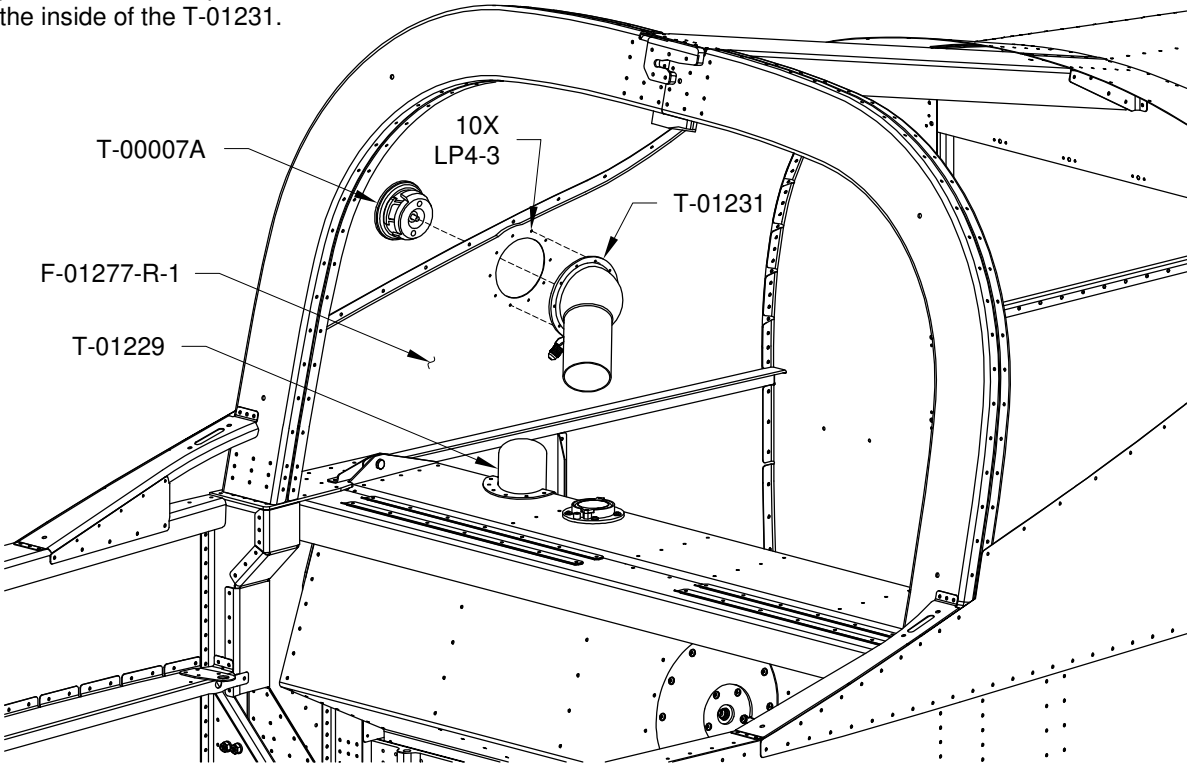

FIGURE 2: INSTALLING THE FILLER NECK
Step 3: Apply fuel tank sealant to the mating flange of the T-01231, then rivet it to the F-01277-R-1 using the rivets called out in Figure 2. When properly oriented, the outlet of the T-01231 will be directed toward the T-01229 on the fuel tank.